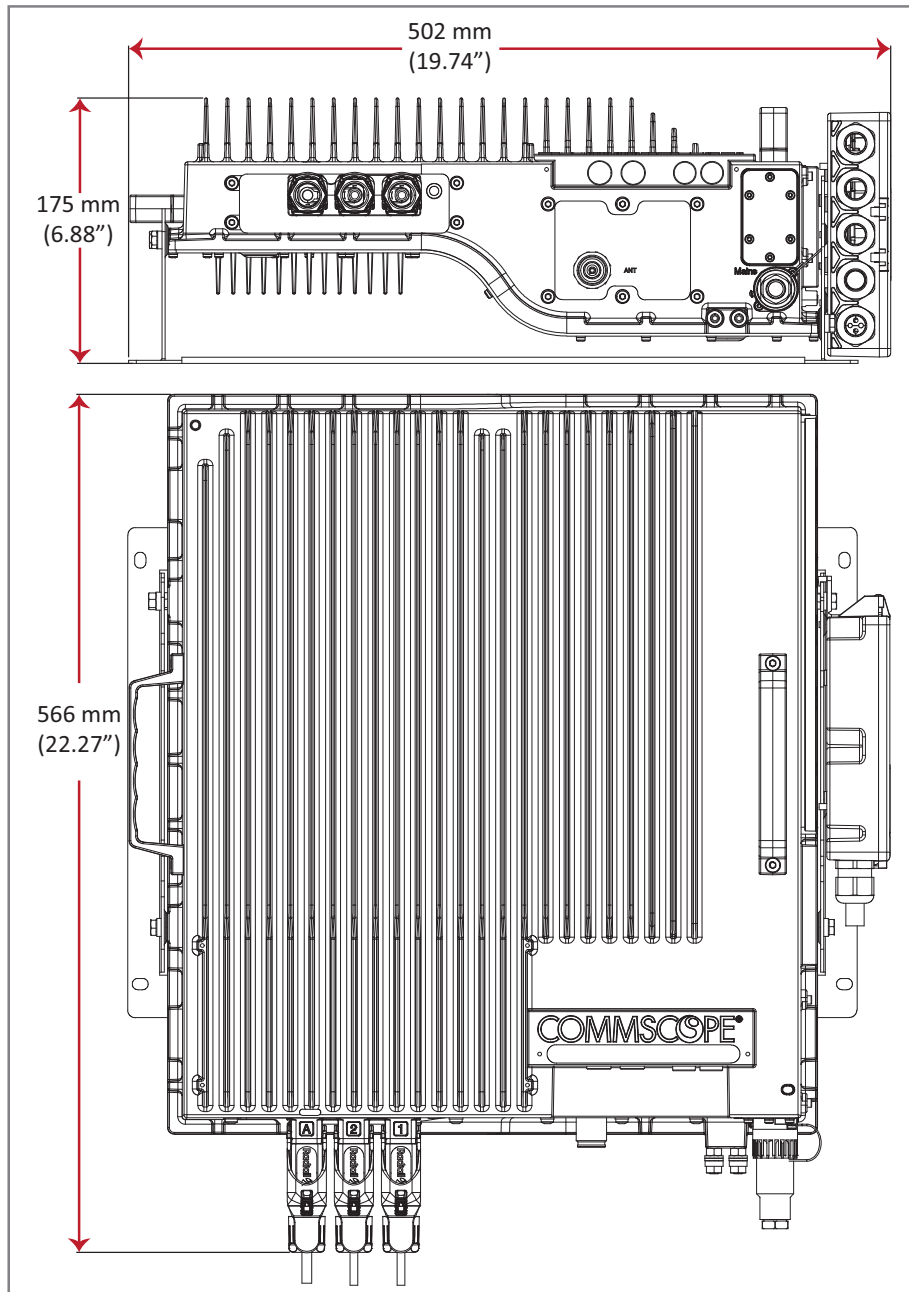
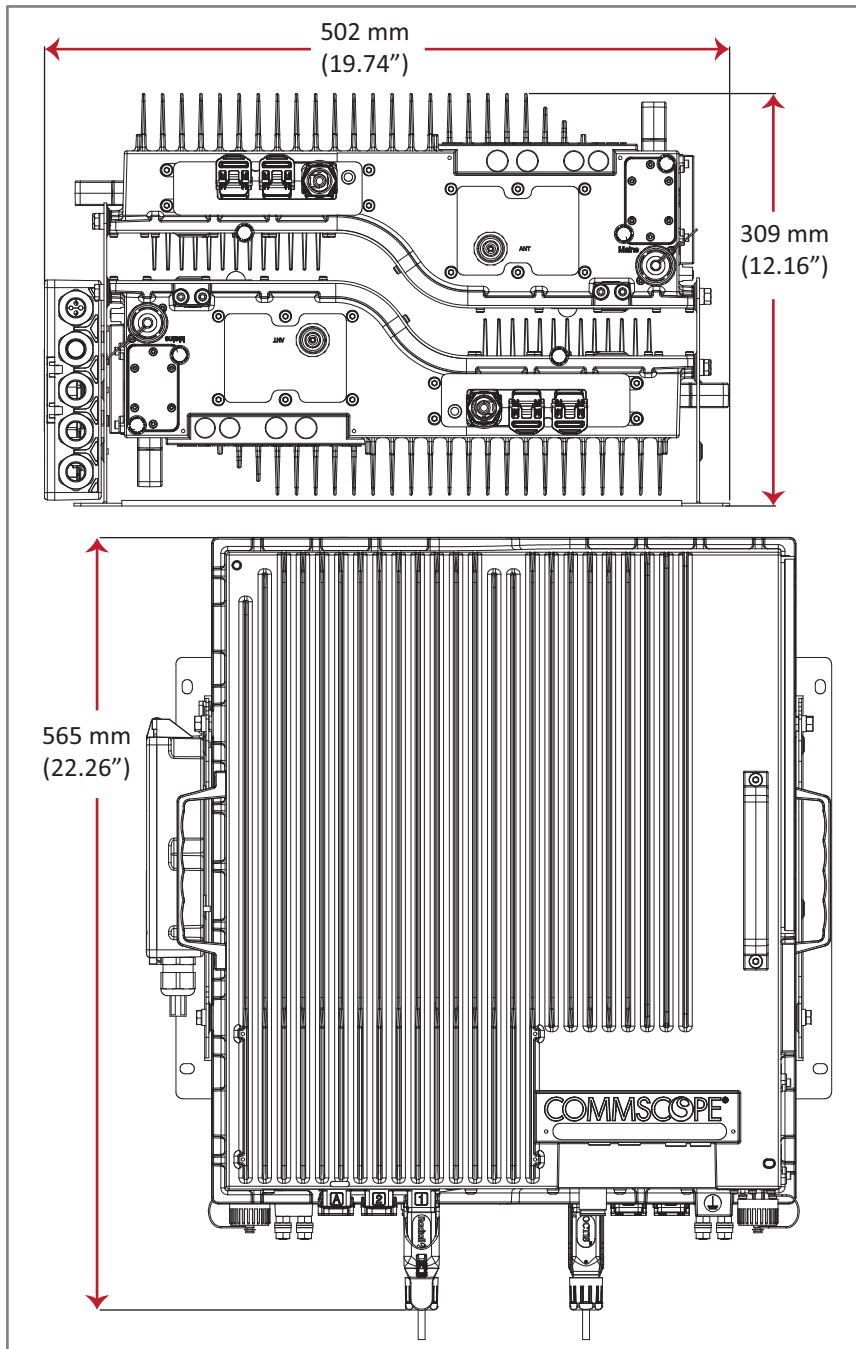

Figure 16. Mounting Dimensions for Single Mounting Bracket with Splice Box
Figure 18. Mounting Dimensions for the Dual Mounting Bracket with Splice Box
- Use the dimensions shown in Figure 16 on page 26 for Single Mount and Figure 18 on page 28 for Dual Mount.